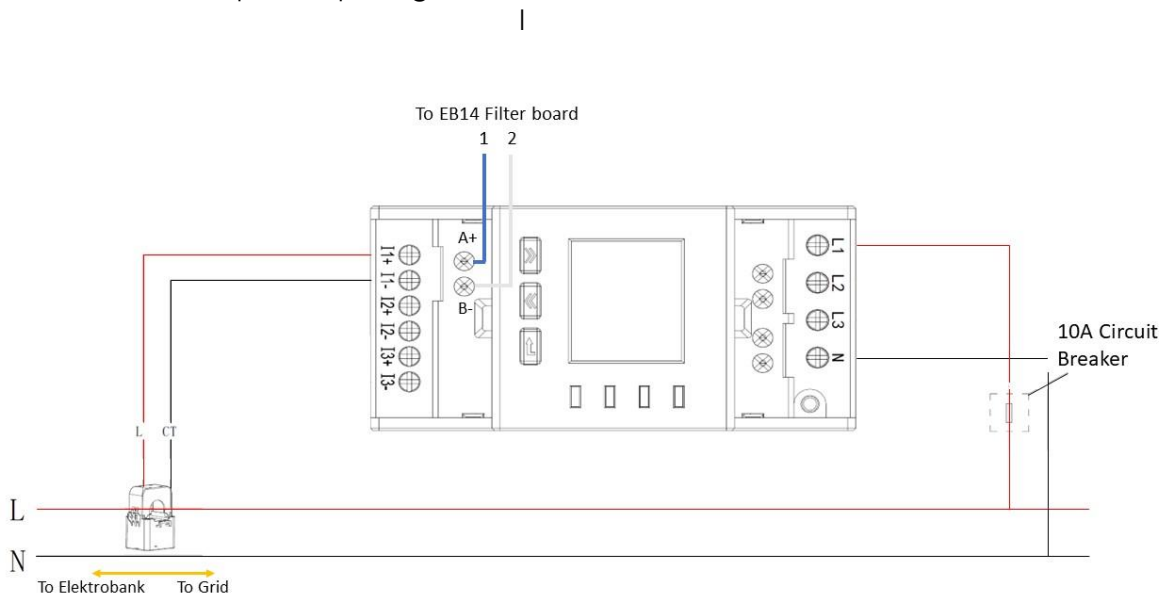

Figure 25: ADL400N Single Phase Wiring Diagram
- ii. Only a single CT should be connected to the meter. The red (L) wire should be placed in the I+ port and the black (CT) one placed into the I- port as per Figure 25 below.
to measure the PV generation. Use the wiring diagrams above for single phase (Figure 25) or 3-phase (Figure 26).